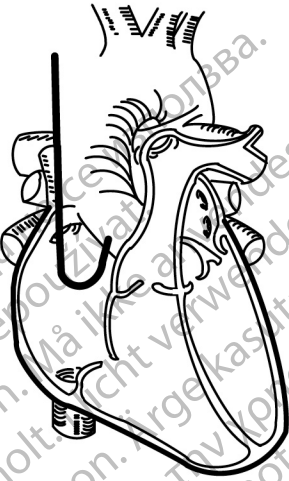

Figure 6. Atrial placement
3. To position the preformed atrial J lead, hold the stylet stationary and maintain fluoroscopic observation while advancing the lead tip until the tip enters and becomes lodged in the atrial appendage (Figure 6 Atrial placement on page 16).